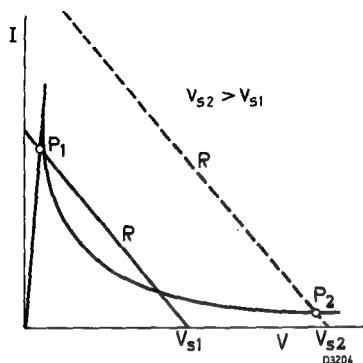

Fig. 6
- (1)  $V_s$  increases (figure 6)
- (2) the applied voltage; the higher the voltage the shorter the time taken (fig. 6)
- (3) the ambient temperature; the higher the ambient temperature the less time taken.